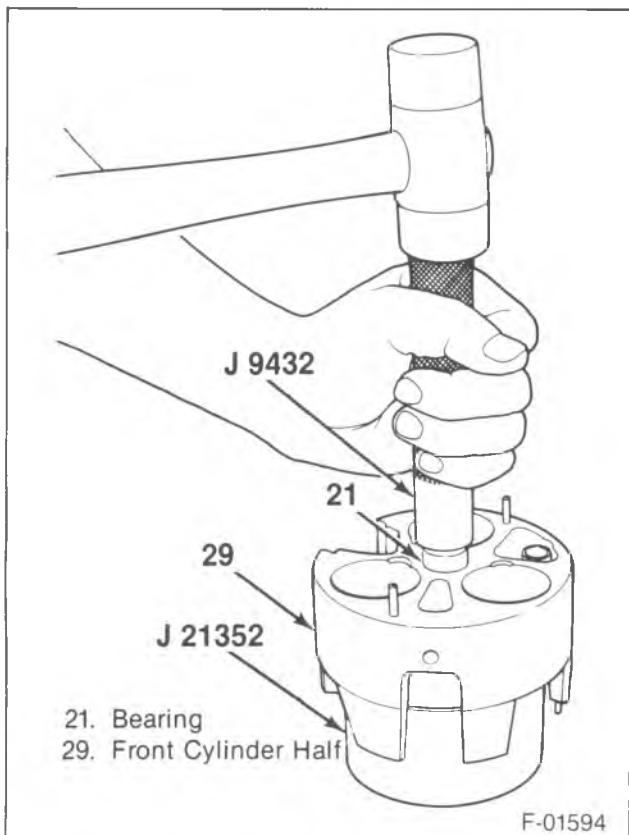
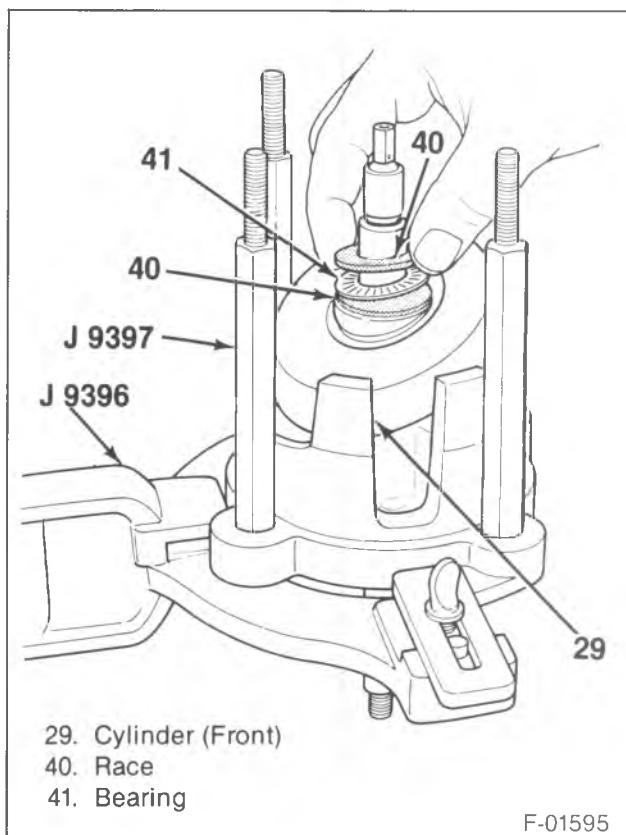
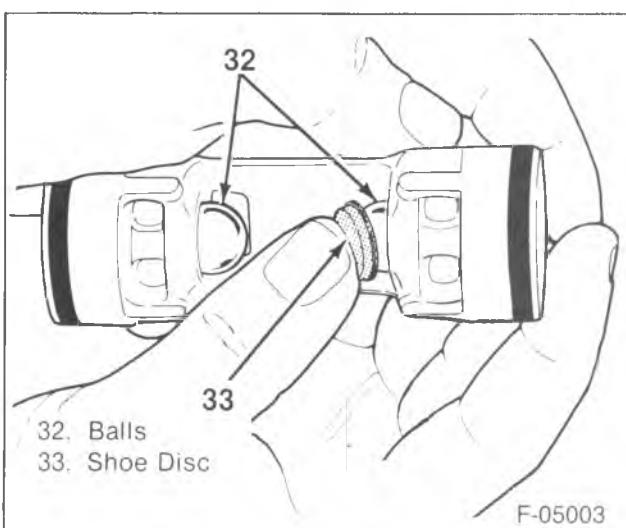

Figure 27—Installing the Needle Bearing
Figure 28—Installing the Rear Thrust Races and Bearing
Figure 29—Installing the Front Shoe Disc
↔ Install or Connect (Figures 27 through 31)
1. Needle bearing (21) to the front cylinder (29) with J 9432 (figure 27).
- Support the cylinder half (29) on J 21352-A.
- Insert needle bearing (21).
- Insert J 9432 into the hub end (inner side) of the cylinder head (29) and drive the needle bearing into the cylinder.
- Remove cylinder half (29) from J 21352-A.
3. The front cylinder half (29) in J 9397 flat side down.
- The front cylinder half (29) has a long slot extending out from the shaft hole. The "legs" of the front cylinder half (29) will point upward.
4. "Zero" thrust race (27), thrust bearing (28) and "zero" thrust race (27) to the front end of the shaft (38) (figure 28).
- Lubricate the races (27) and the bearing (28) with petroleum jelly.
5. Threaded end of the shaft (39) through the needle bearing (21) in the front cylinder half (29) and allow the thrust race (27) and bearing (28) to rest on the hub of the cylinder.
6. Insert a thrust race on the rear end of the shaft (38) so that it rests on the hub of the axial plate.
7. Place the balls (32) into the sockets of number one piston (figure 29).